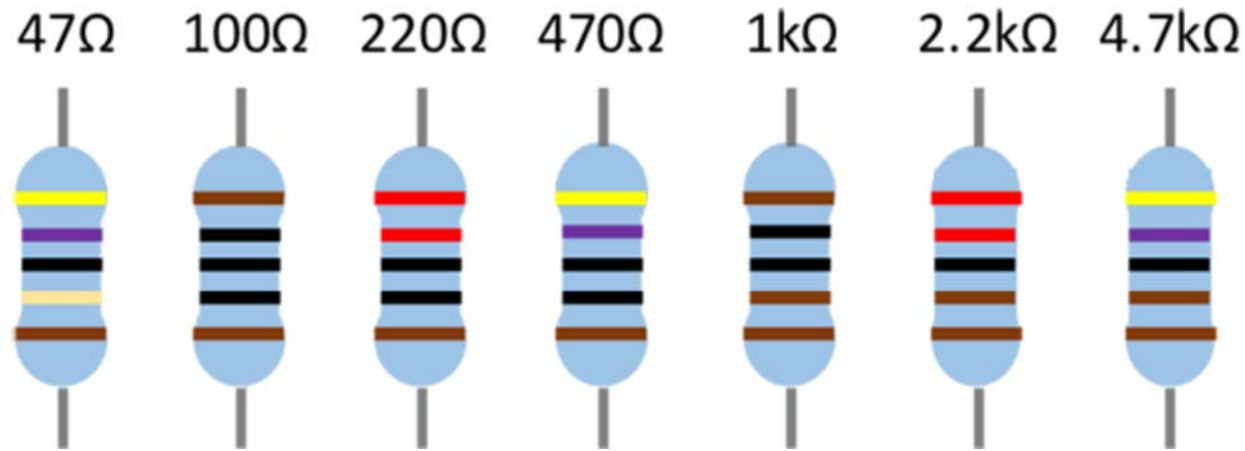

Figure 7. Use this resistor color chart to determine the resistance for each resistor.
- ii. Resistors' values are labeled using color-coded bands. Use Figure 7 to determine the resistance for each resistor.